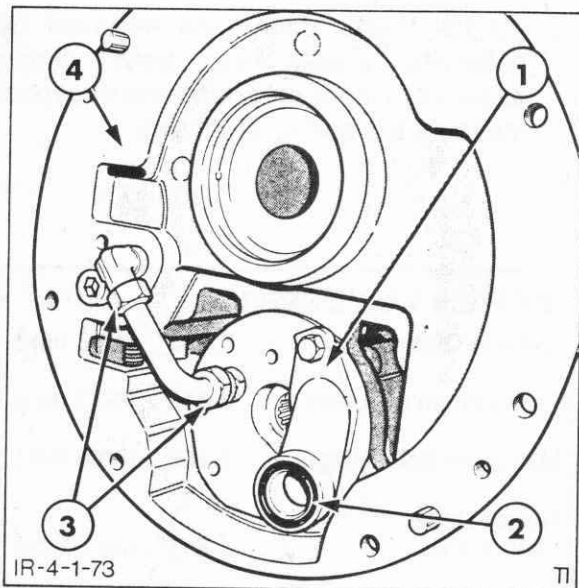

Figure 4-176
9. Inspect the oil distributor housing for cracks and check the valve bores for wear or scoring. Check the pressure pipes connections are tight and replace the suction pipe seal on assembly, Figure 4-176.